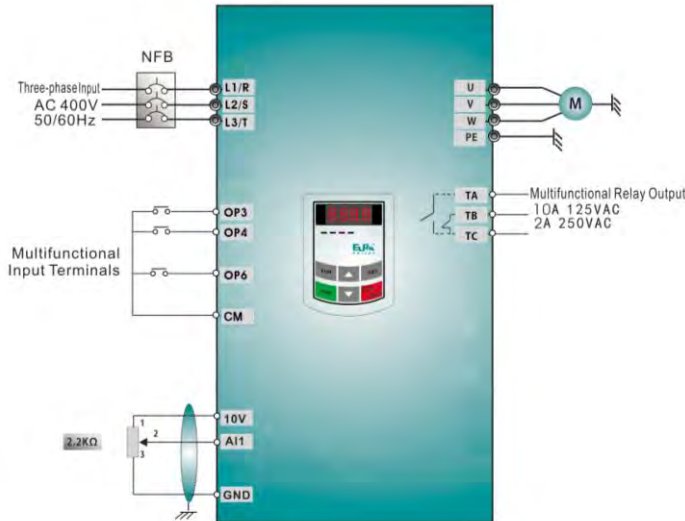

Figure 4-3 Wiring Diagram 3
- (1) Connect the wires in accordance with Figure 4-3. After having checked the wiring successfully, switch on the air switch, and power on the inverter. Note: 2K~5K potentiometer may be adopted for setting external analog signals. For the cases with higher requirements for precision, please adopt precise multiturn potentiometer, and adopt shielded wire for the wire connection, with near end of the shielding layer grounded reliably.